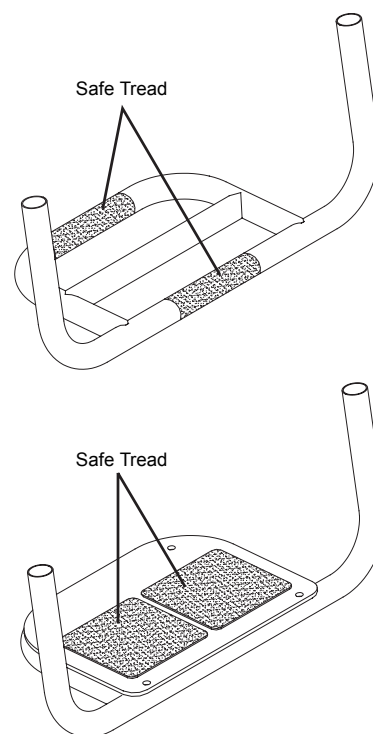

Figure 1
1. See Figure 1 for the suggested location of the Safe Tread.